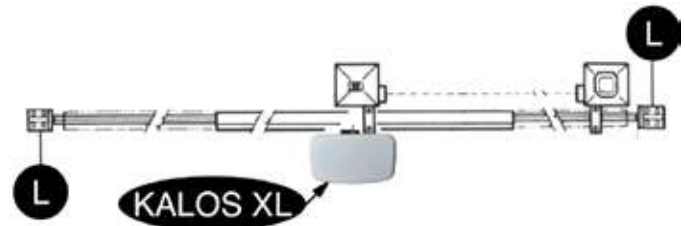

FIG. 2
- Besides the electrical or mechanical limit switches available on the operators, there must be, on both ends of the installation, a fixed mechanical stopper which stop the gate in the unlikely event of ill functioning of limit switches on the operators. For this reason the fixed mechanical stopper must be of an adequate size to withstand the static and kinetic forces generated by the gate (L) (Fig.2). The guide must be provided with two mechanical stops at its ends (L) (Fig. 2).